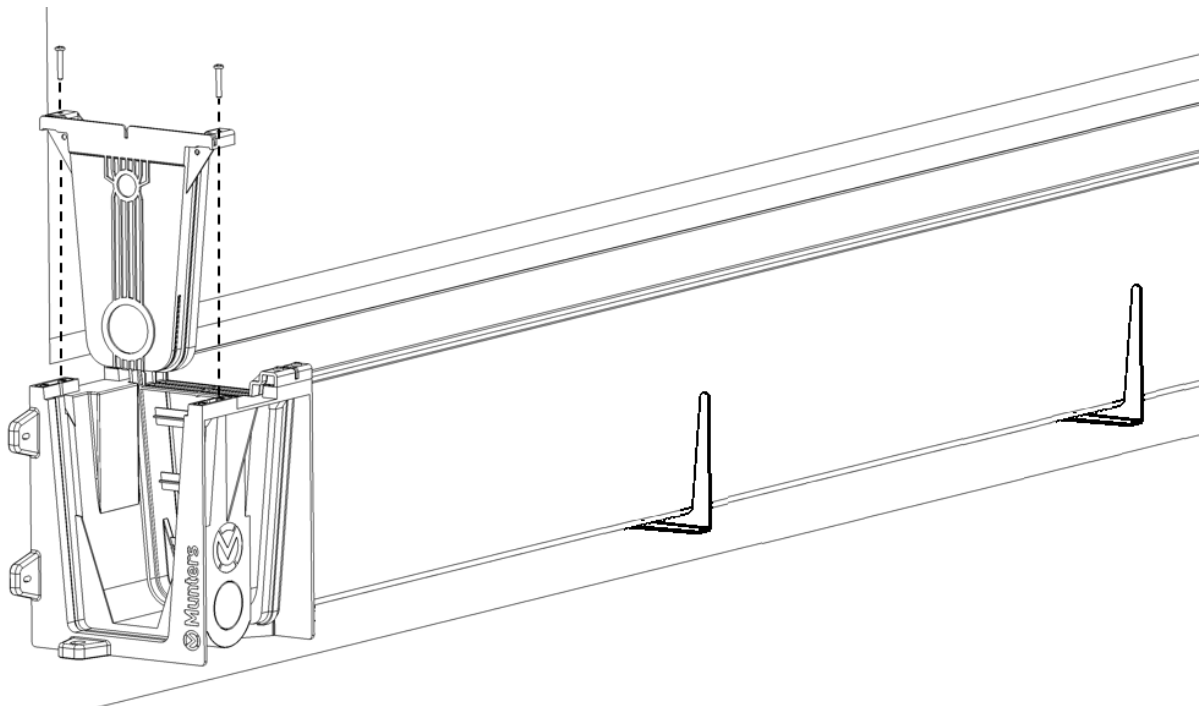

Figure 39
Close the left side of the system installing the Bottom Gutter End Cover [ref. 18] and fixing it to the Supply Unit Connection Bracket by means of (2 pcs) Screws for thermoplastic [ref. 7]. See Figure 39.